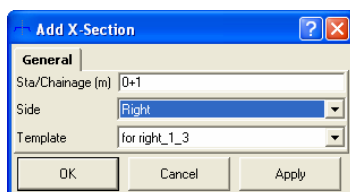

Figure 9-73. Add X-Section
2. In the *General* tab of the **Add X-Section** dialog box, set the following parameters (Figure 9-73):
3. Click the **Calc** button on the **Inverse** window. See Figure 9-73 on page 9-53. The *Inverse* tab is created (Figure 9-78).
3. Click the **Calc** button on the *Inverse Point to line* dialog box (Figure 9-73 on page 9-53). The *Inverse Point to line* tab is created.